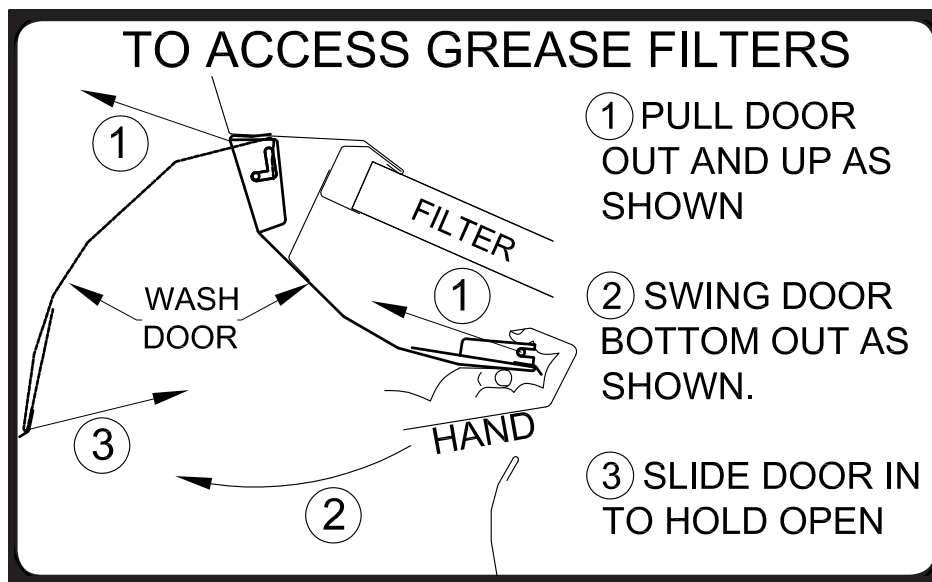

Figure 3-6-1
2. When a wash cycle is not on, open the Extractor Access Doors and remove the Extractors. (Refer to Figure 3-6-1). Check the Extractors and Plenum area to ensure they are adequately cleaned. If the Ventilator includes UV Lamps check to ensure that they are adequately cleaned. If overall cleaning appears to be inadequate, refer to the Troubleshooting procedure on Page 4-2.